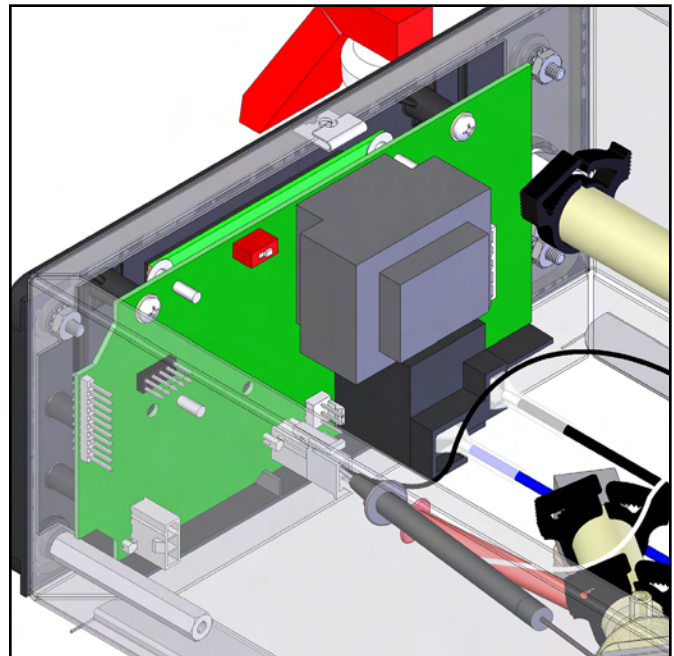

FIG. 18-2 TESTING TEMPERATURE PROBE
2. With a DC voltmeter, check voltage across the two wires at J9 on control board (Black-probe to black wire, red probe to white wire. refer to FIG 18-2). Connect the brewer to the power source. The indication should be *approximately* between 4vdc cool to 1vdc at ready temperature.